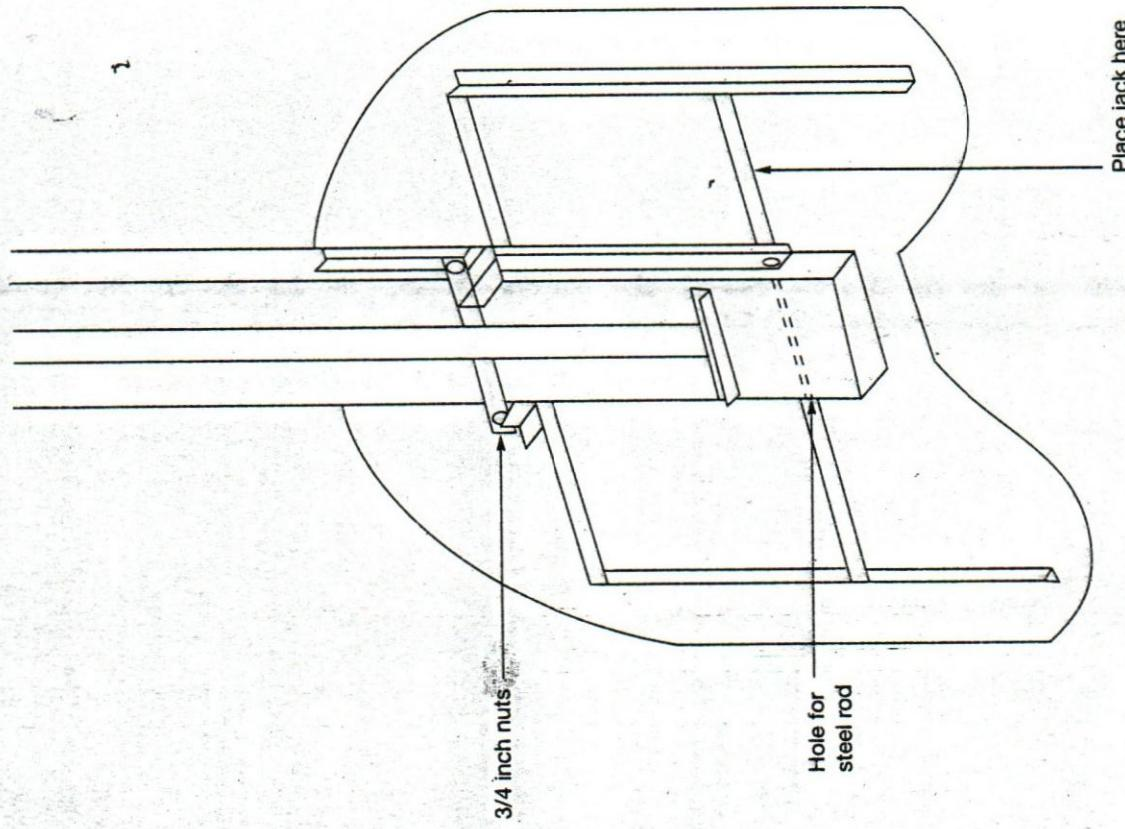

FIGURE 1
3. Place the flat plate of the hydraulic jack under the crossbar as indicated in Figure 1.
5. Remove the safety pin from the end of the steel rod. This rod is inserted through a hole in the support frame as shown in Figure 1.
7. Use the  $\frac{3}{4}$ -inch socket wrench to loosen (counterclockwise) the two nuts, as shown in Figure 1.